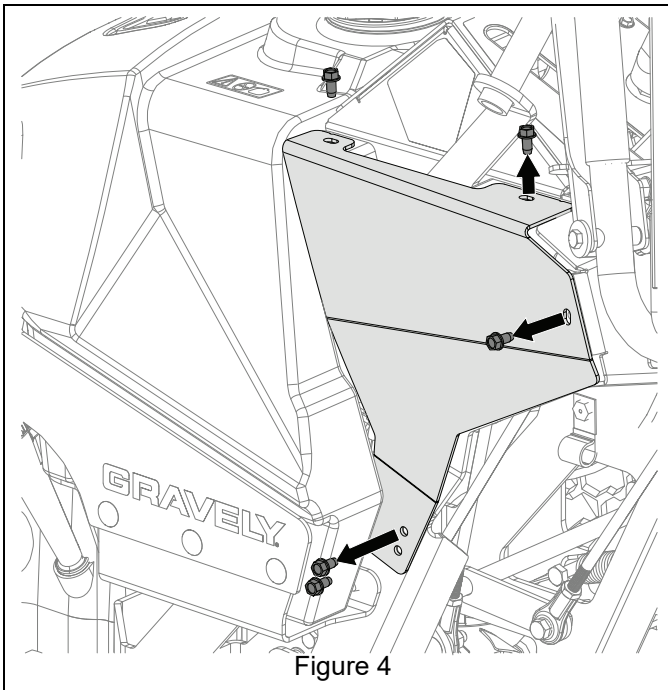

Figure 4
5. Remove and retain five 1/4" x 1/2" tapping screws retaining left side cover and remove cover. See Figure 4.